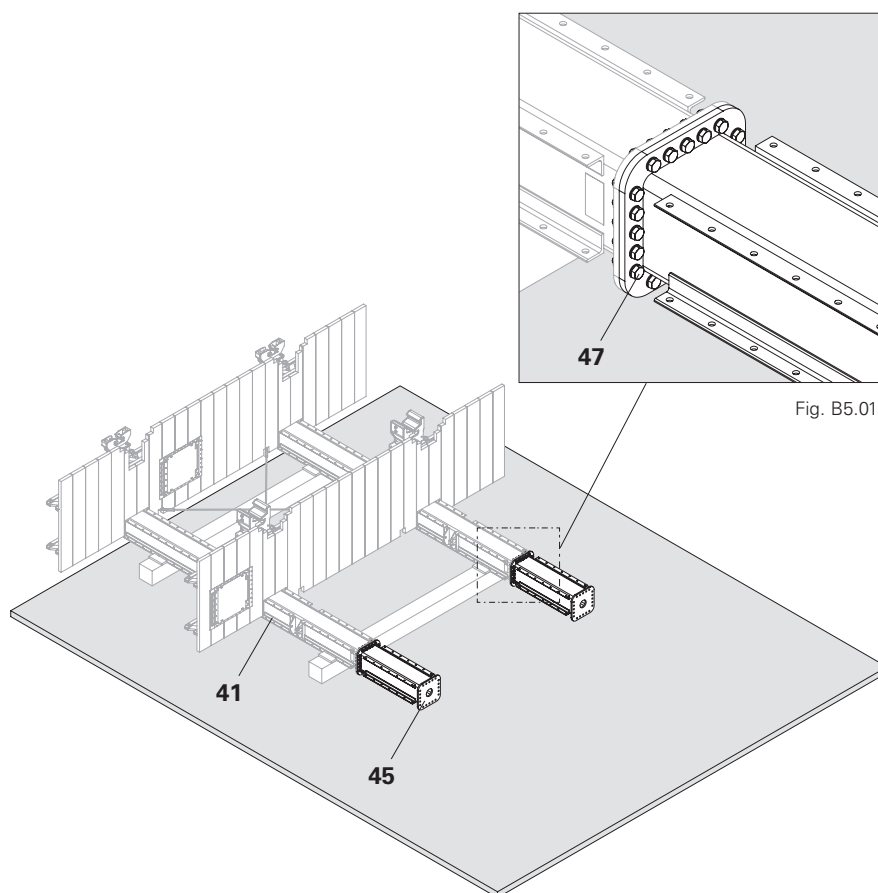

Fig. B5.01
1. Screw the Vertical Post Intermediate 1200 ACS (45) onto the head end of the Console Bracket ACS-G (41) with the HV-Bolt Set M20x75 (47). (Fig. B5.01)